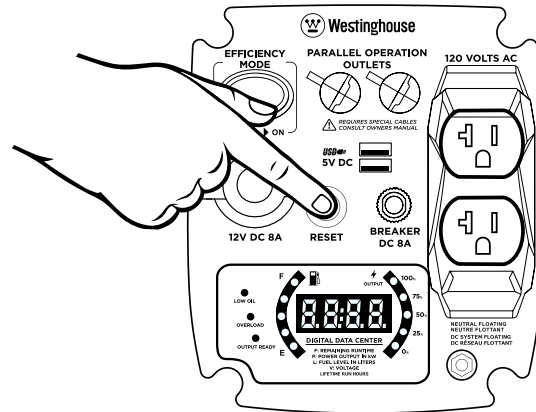

Figure 11: Press the Reset Breaker
3. Press in the reset breaker to reset it (see Figure 11).